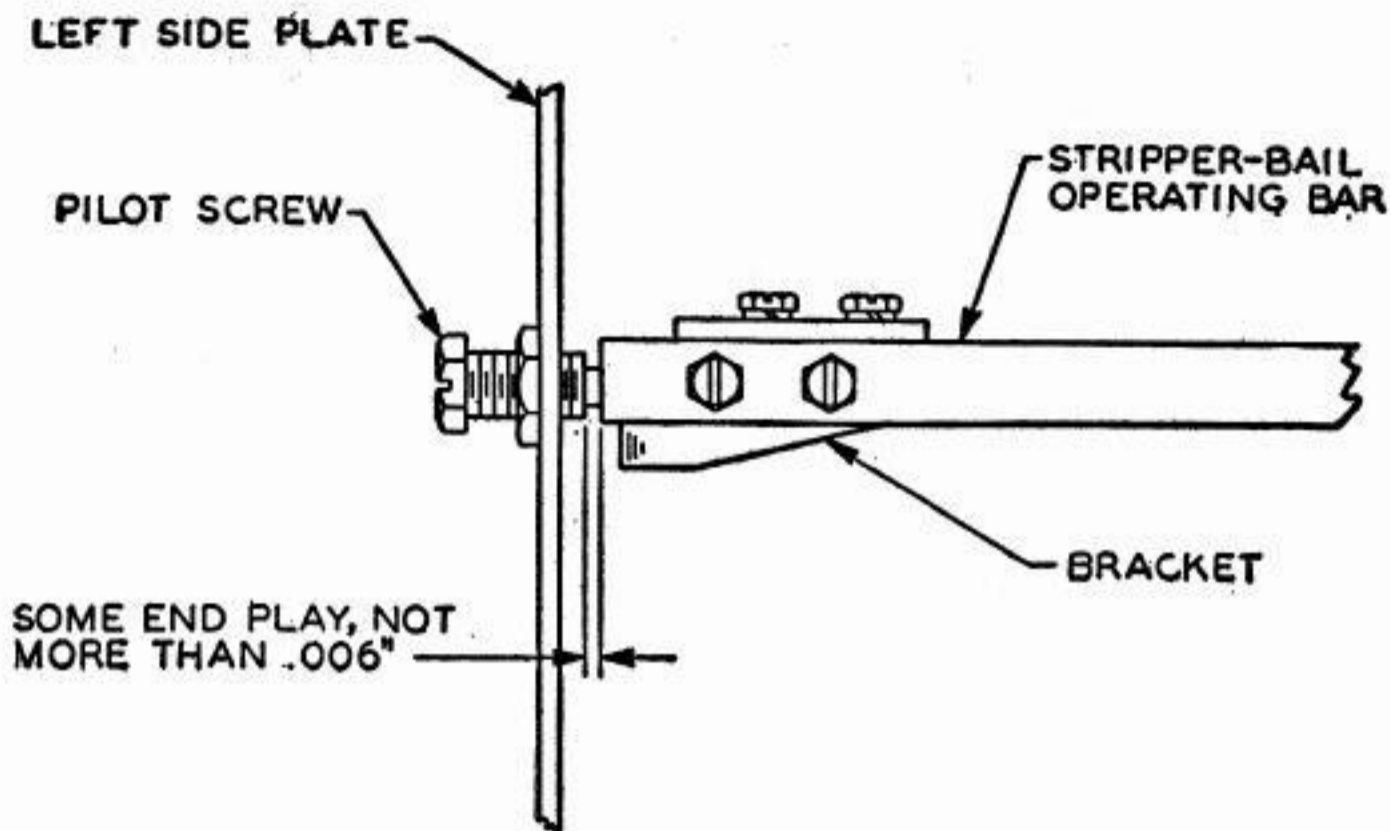

Fig 7
3.12 **Stripper-Bail Operating-Bar:** The stripper-bail operating-bar (located directly below vane No. 2) should have some endplay, not more than .006". **Fig 7**